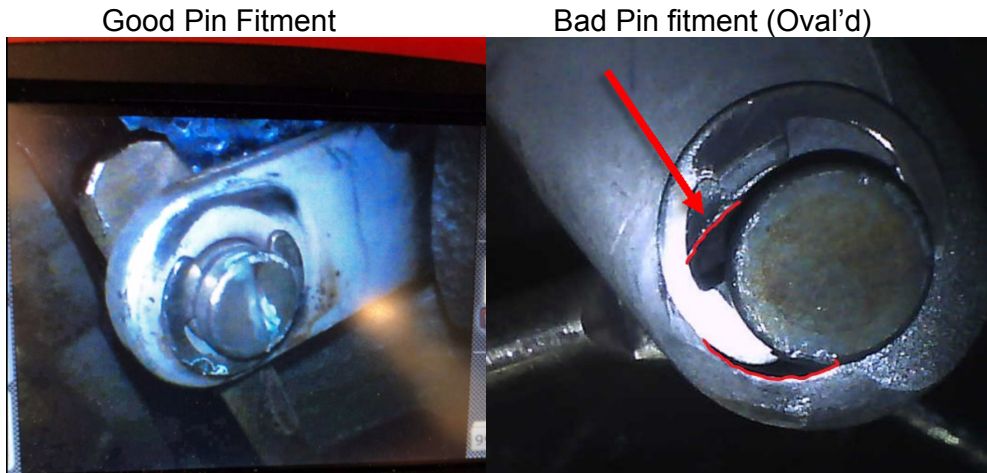

Figure 3 - Clips of the wastegate
4) Check if the clips of the wastegate are present as figure 3